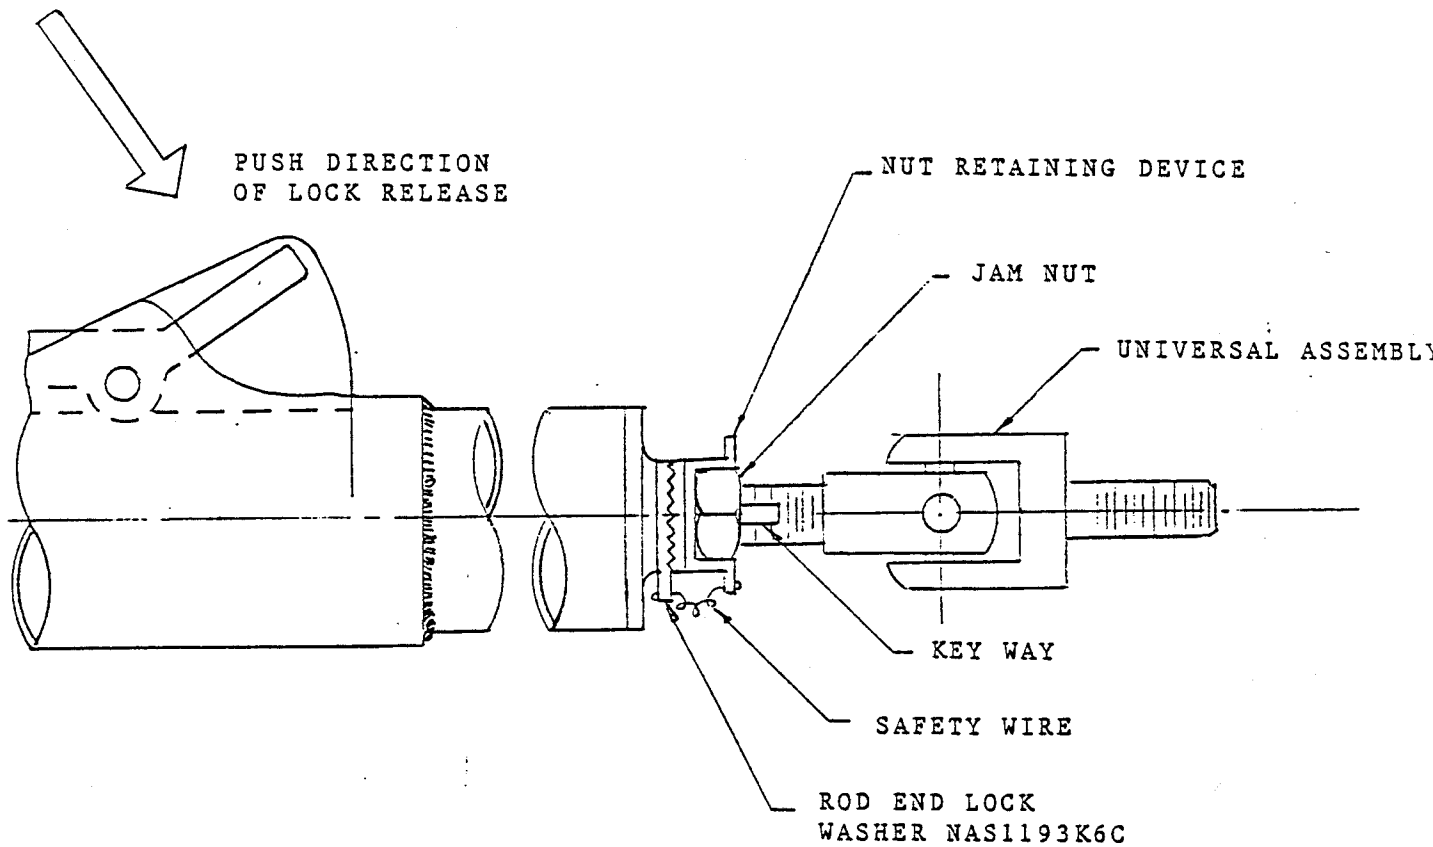

FIGURE 2 - A6201-3 END FITTING
- (5) The A6201-3 rod requires adjusting the orientation of the universal keyway so that it is rotated 90 degrees from the push direction of the trigger lock release as shown in Figure 2. Tighten jam nut in the nut retaining device.
- (8) The A6201-3 rod requires adjusting the orientation of the universal keyway so that it is rotated 90 degrees from the push direction of the trigger lock release as shown in Figure 2. Tighten jam nut in the nut retaining device.
- (9) Safety wire the lock washer to the retaining device with MS20995C32 safety wire.
- (10) Clean area immediately following NORCO P/N A6201-2 or A6201-3 by rubbing with wiper damped with Aliphatic Naphtha, TT-N-95, or equivalent, until soil is removed. Do not allow solvent to evaporate. Avoid removing pretreatment or finish coating. After soil is removed, wipe the area dry with a clean dry wiper. Using rubber stamp letter size 1/8" to 3/16" and Alcosol or F-100 stamp pad ink, or equivalent, apply the letter "D" immediately following the dash number. Clean stamp with naphtha, or equivalent, as required, for mark legibility and sharpness. Allow ink to dry at least ten minutes and overcoat with Bostik 683-3-2 or 683-3-9 or equivalent.